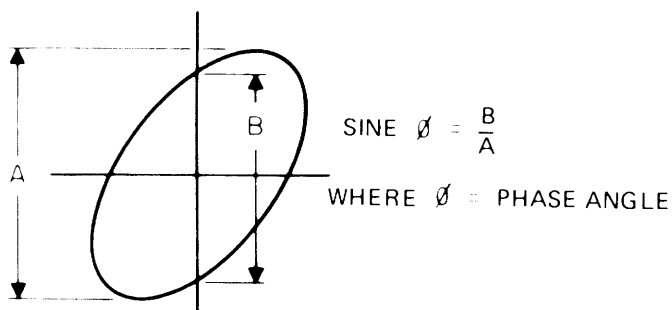

Fig. 33
- Phase shift of less (or more) than 90° produces an elliptical Lissajous' pattern. The amount of phase shift can be calculated from the oscilloscope trace as shown in Fig. 33.